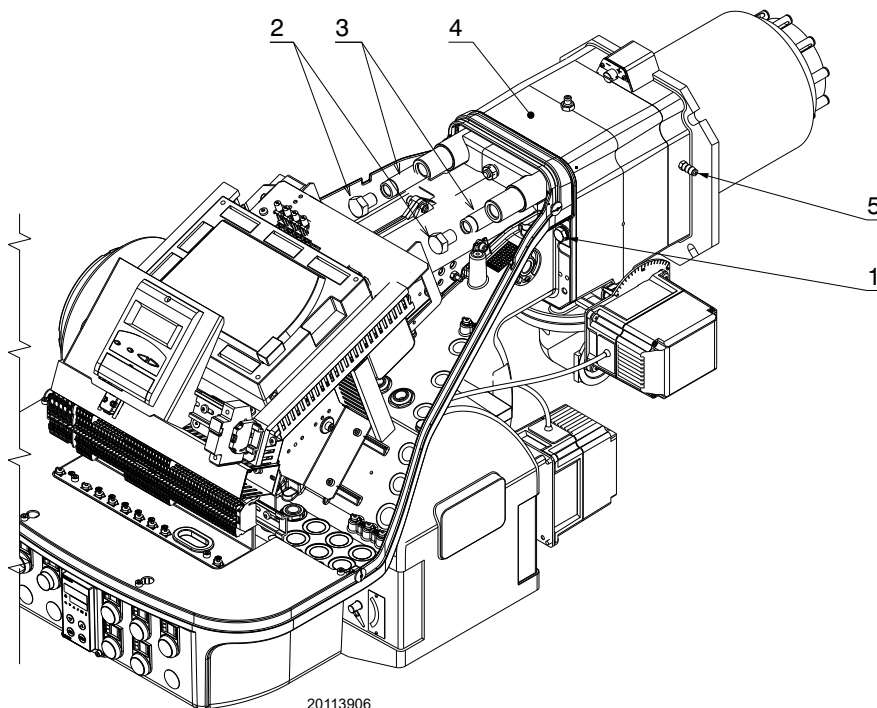

Fig. 20
- insert the probe and electrode cables, then slide the burner as far as the pipe coupling - burner in the position shown in Fig. 20;